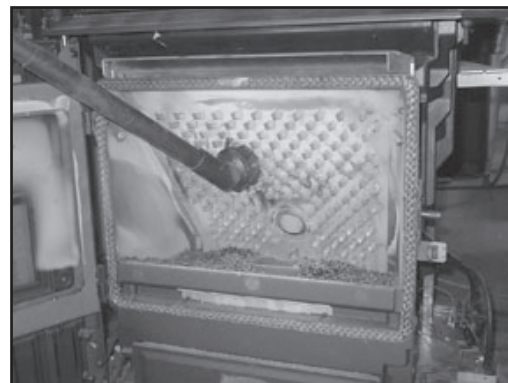

Figure 25.3
- b. Vacuum the ash from the heat exchanger with an upholstery brush to remove the majority of the ash. Be sure to vacuum the back of the baffle also. Inspect the drop tube and remove any residue build-up in the drop tube. **Figure 25.3.**